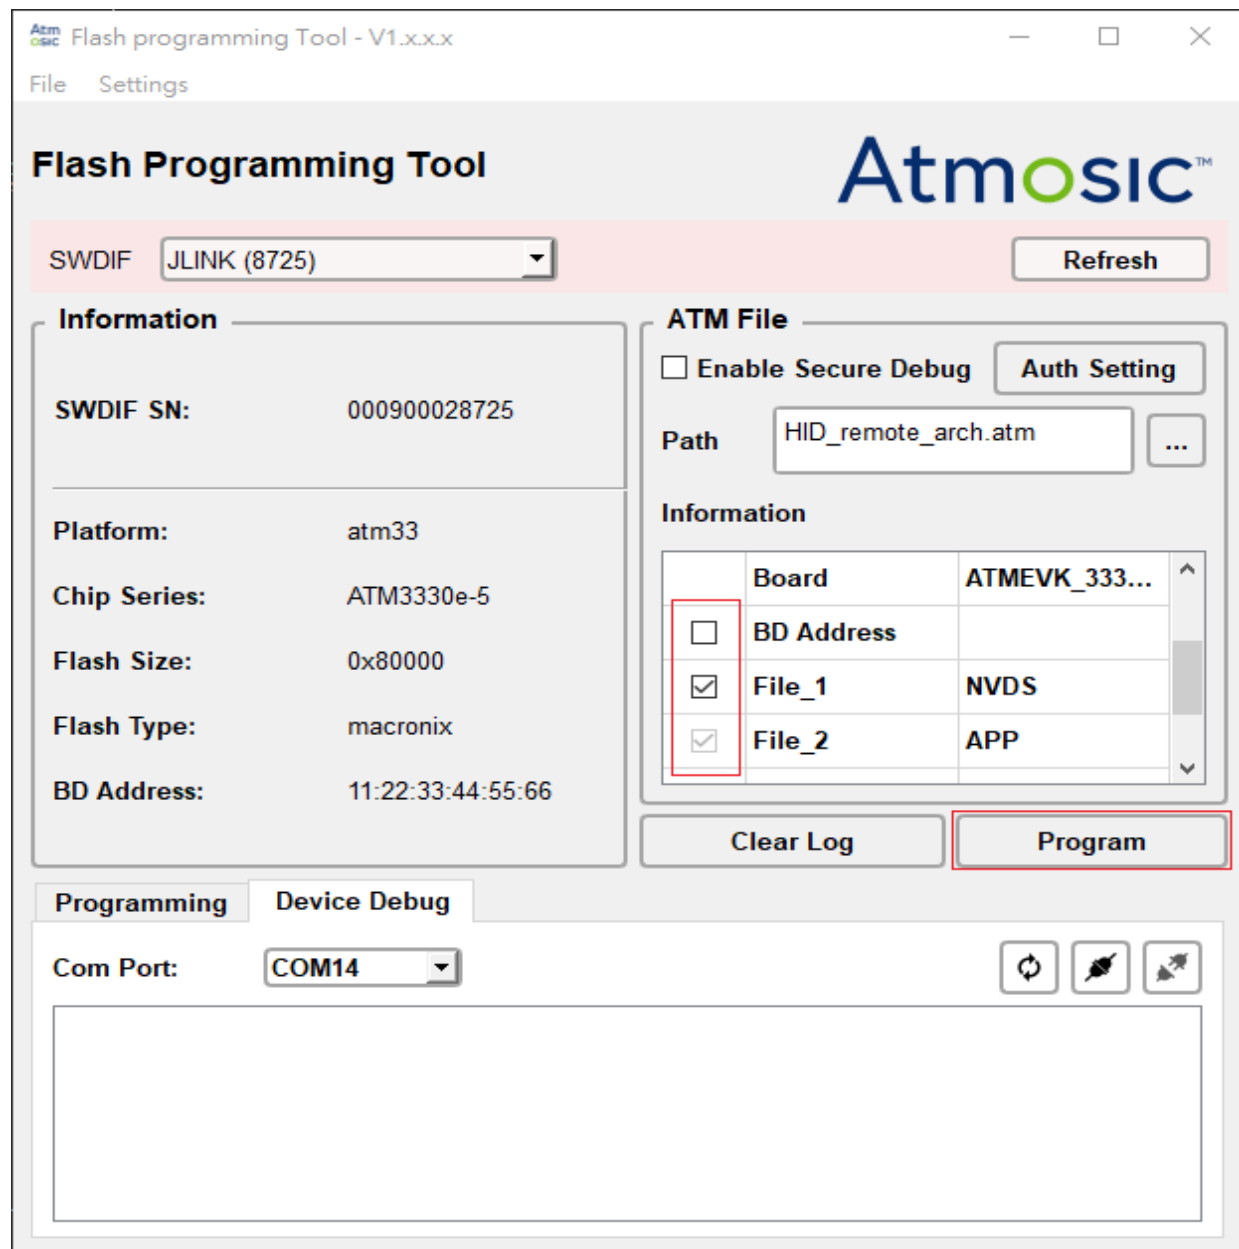

Figure 3-5 Program in Main GUI
- Figure 3-5 Program in Main GUI